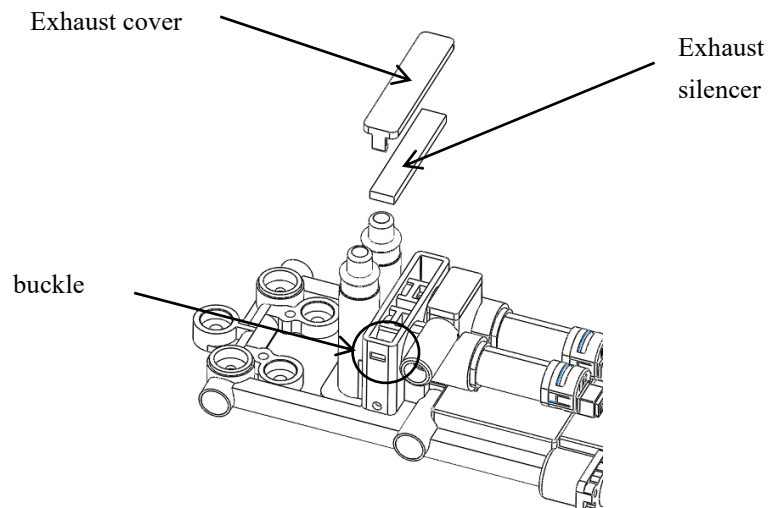

Figure 18 Remove the Exhaust cover and silencer cotton
3. Cancel the exhaust cover at the buckle position and remove the exhaust silencer cotton (Refer to Figure 18)